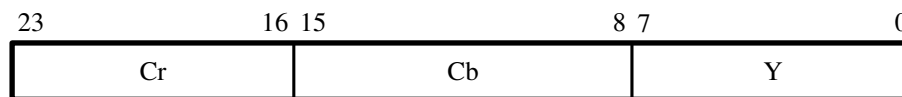

Figure 19. YCrCb 4:4:4 Color Space.
- YCrCb 4:4:4 — This format is the normal YCrCb with all components as shown in Figure 19. This mode is defined as 8 bits per symbol and three symbols per beat.